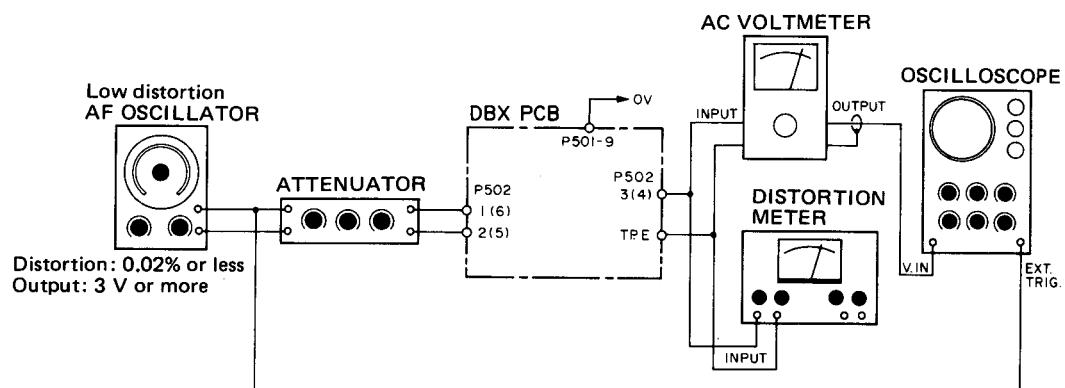

Fig. 5-15
2. Make the Fig. 5-15 connections, then feed a 1 kHz/-8 dB (308 mV) input signal to the INPUT terminal. Adjust R55/R65 (DECODING LEVEL) so that AC voltmeter reads -8 dB (308 mV).
3. Check that when the input signal is 100 Hz/-8 dB (308 mV), then 10 kHz/-8 dB, the output signal from 3(4) terminal (OUTPUT) deviates by  $-1 \text{ dB} \pm 0.5 \text{ dB}$ , then  $+5 \text{ dB} \pm 0.5 \text{ dB}$  from -8 dB (reference), respectively....so that output, as a voltage value, should be 652 mV to 731 mV for 100 Hz, and 1.30 V to 1.46 V for 10 kHz.